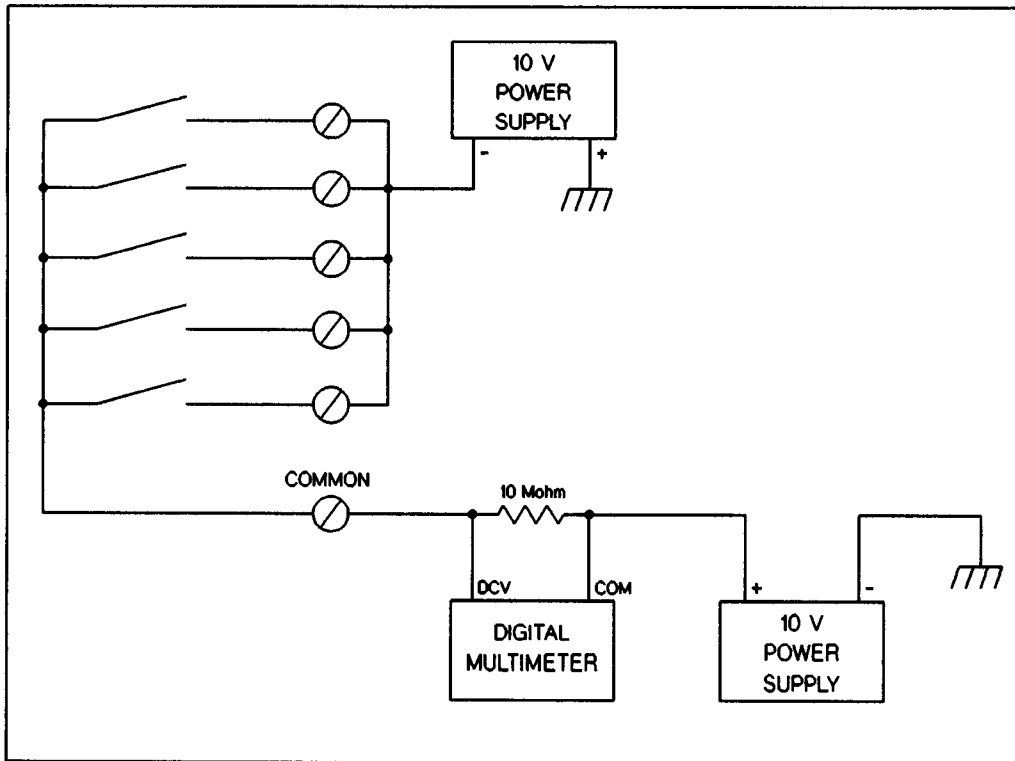

Figure 10-17 Open Channel Leakage Test
1. OPEN CHANNELS LEAKAGE/BIAS CURRENT TEST. This test checks the leakage current with all channels open. A simplified schematic of the setup is shown in Figure 10-17 and the test setup for the HIGH lines is shown in Figure 10-18.